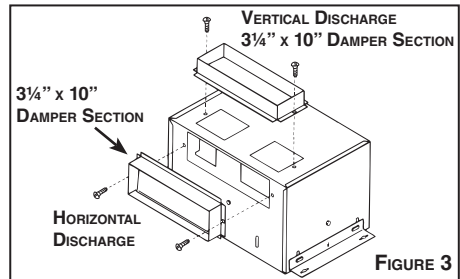

FIGURE 3
4. **Refer to Figure 3.** Mount 3/4" x 10" damper section on top of housing for vertical discharge or on the side of housing for horizontal discharge with two screws (included).